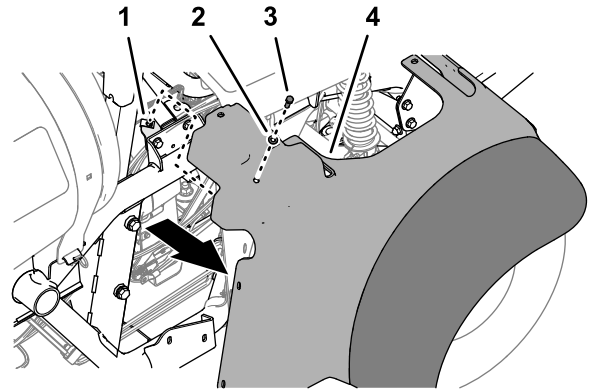

Figure 42
4. Remove the capscrew (5/16 x 1 inch) and washer (5/16 inch) that secures the right, front fender to the cross-member support (Figure 42).